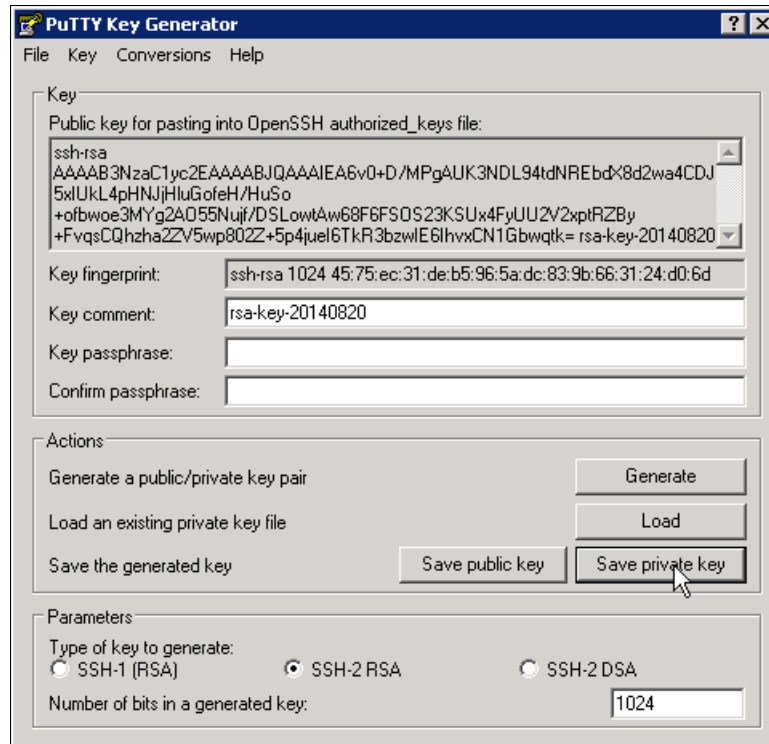

Figure 8-4 Save private key
5. Click **Save private key** (Figure 8-4).